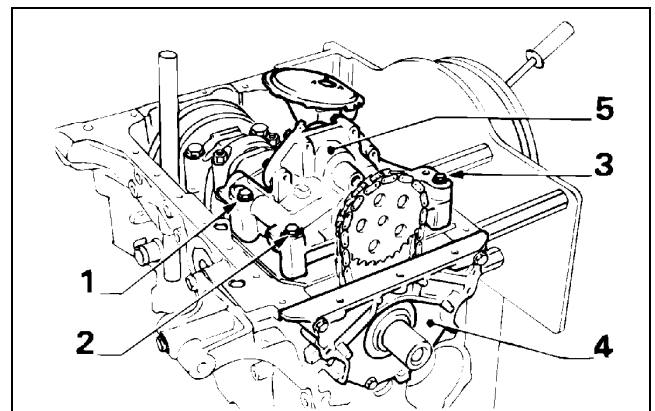

Figure 61
4. Remove the pump (Fig. 61, Item 5) / drive chain / crankshaft sprocket (Item 7) assembly. NOTE: Item 6 - spacer is not used on engines used in TORO machines.